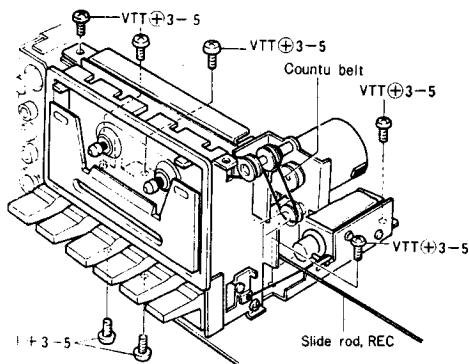

Fig. 3
- 2) Remove 7 screws. (Refer to Fig. 3)